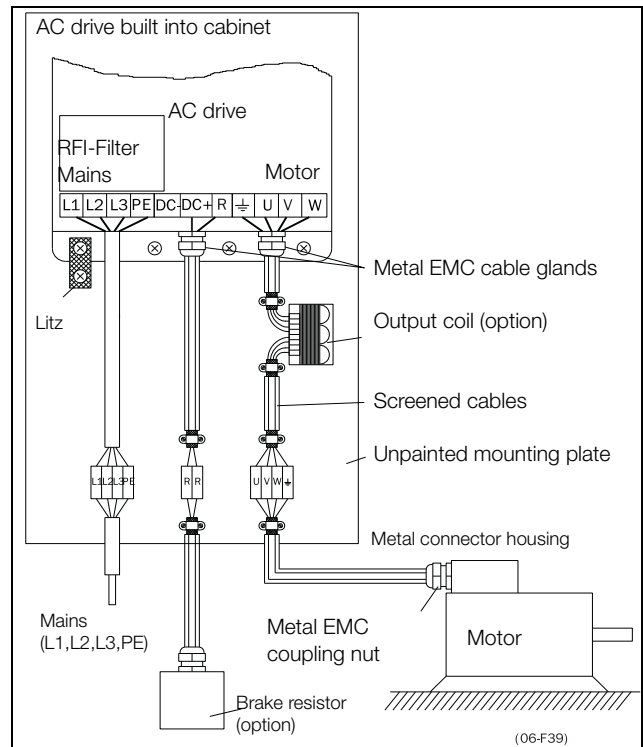

Fig. 48 AC drive in a cabinet on a mounting plate.
- The litz ground connection see fig. 48, is only necessary if the mounting plate is painted. All the AC drives have an unpainted back side and are therefore suitable for mounting on an unpainted mounting plate.
- The litz ground connection, see fig. 48, is only necessary if the mounting plate is painted. All the AC drives have an unpainted back side and are therefore suitable for mounting on an unpainted mounting plate.
If the motor cables are to be interrupted by maintenance switches, output coils, etc., it is necessary that the screening is continued by using metal housing, metal mounting plates, etc. as shown in the fig. 48.
- If the AC drive is mounted in a standard cabinet, the internal wiring must comply with the EMC standard. Fig. 48 shows an example of a AC drive built into a cabinet.